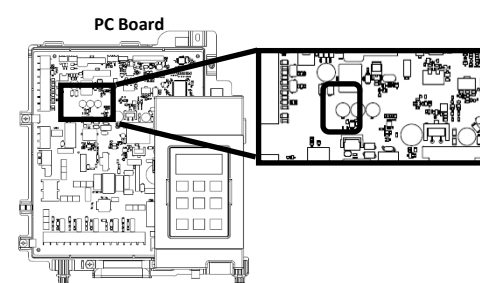

Fig 5. SW 1 Button on PC Board
- To access the parameter settings, press and hold the SW 1 Button on the PC Board for five seconds (Fig 5). 00-R appears on the display (Fig 6).